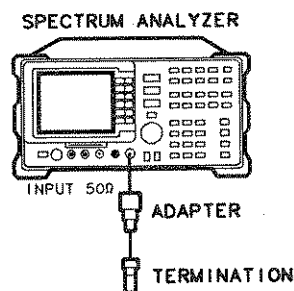

Figure 4-25. Residual Response Test Setup
1. Connect the 50 Ω Termination to the analyzer's input using an adapter, as shown in Figure 4-25.